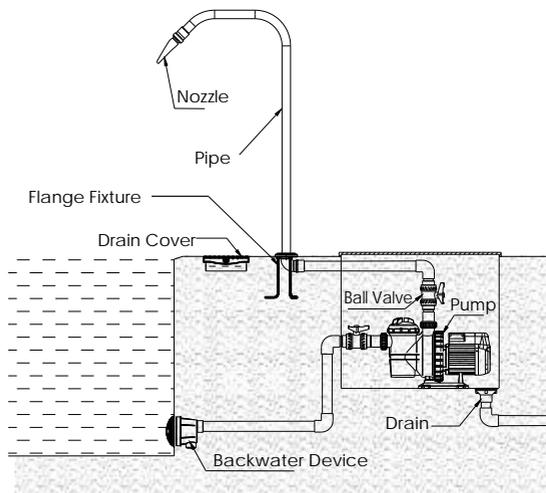

Figure 4
- Install with ball valve in order to control the water flow (Figure 4).
- Install the pump and connect to the power (Figure 4) .